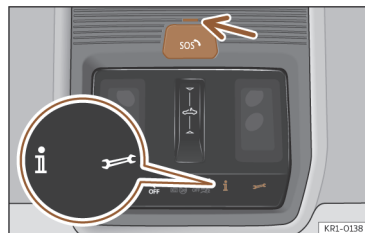

Fig. 47 On the roof console: controls for voice services.
The following voice services can be run by pressing the buttons **i**, **📞** and **SOS** >>> **Fig. 47**:
>>> **Fig. 47** (arrow). It shows the following statuses:
1. Briefly press the button cover  and open the cover >>> Fig. 47.
emergency call system is activated by default. The control element is located on the roof console >>> **Fig. 47.**
1. Briefly press the button cover  and open the cover >>> **Fig. 47.**